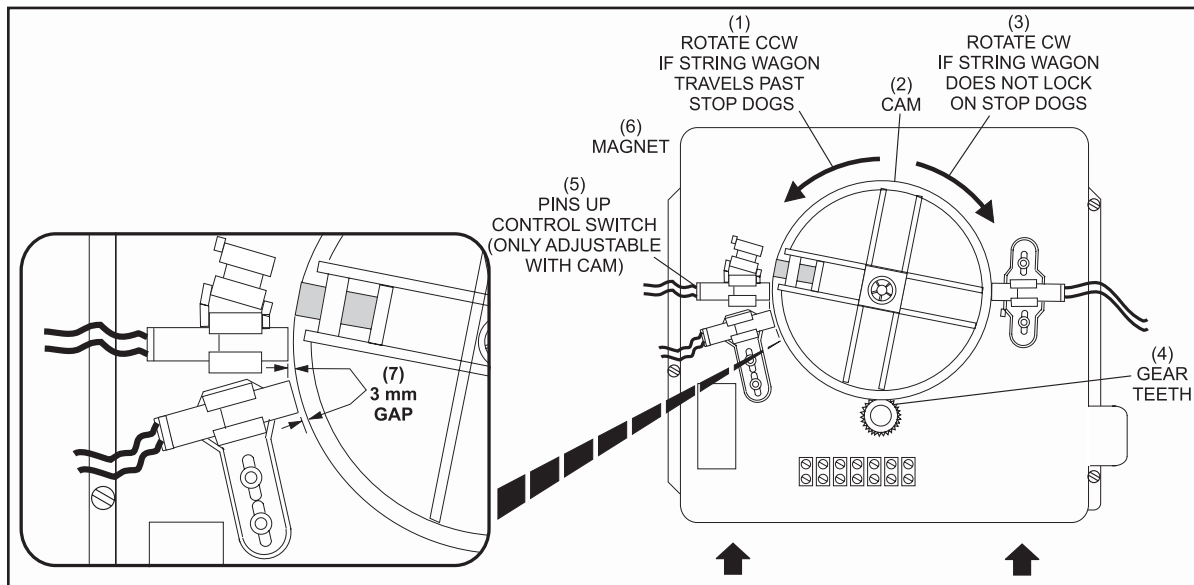

Figure 4-4. Rotate Cam.
(1) CAM CONTROL BOX
(2) CAM
(3) LOOSEN SCREWS
6. Push the Cam Control Box UP to rotate the cam as needed based on the operation observed in step 2. Refer to *Figure 4-4*.
5. After the cam is adjusted in the proper direction, lower the cam down to align with gear teeth. Refer to *Figure 4-4*. Tighten the three screws loosened in step 5.